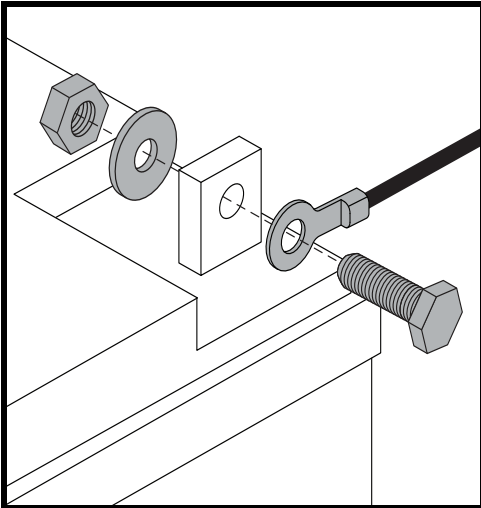

Figure 12. Battery Terminal Hardware
4. Disconnect the battery cables from the battery terminals by sliding back the terminal boots and unscrewing the nut from the bolt. See **figure 12**.